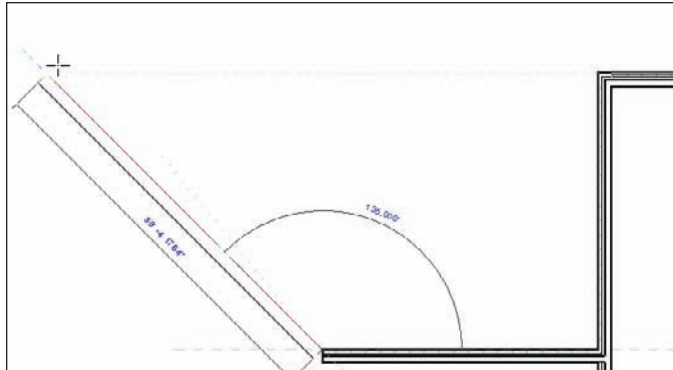

FIGURE 2.8 Allow Revit to guide you in the placement of walls.
13. After you move your cursor far enough in this direction, Revit will pick up the north finish face of the building drawn in the previous procedure. After these two alignment lines appear, pick the point on the screen, as shown in Figure 2.8.